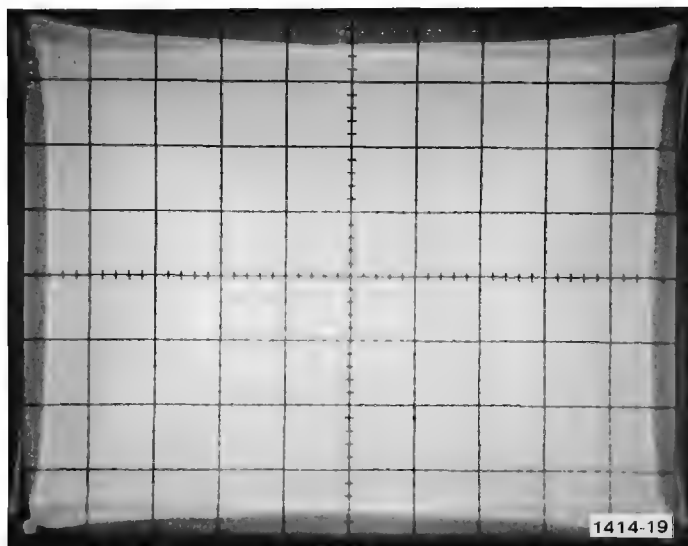

Fig. 5-14. Illustration of Collimation adjustment.
e. ADJUST—CE1 slowly clockwise until the bright area is pulled in from the top and bottom graticule lines by one-half major division at the top (see Fig. 5-14).